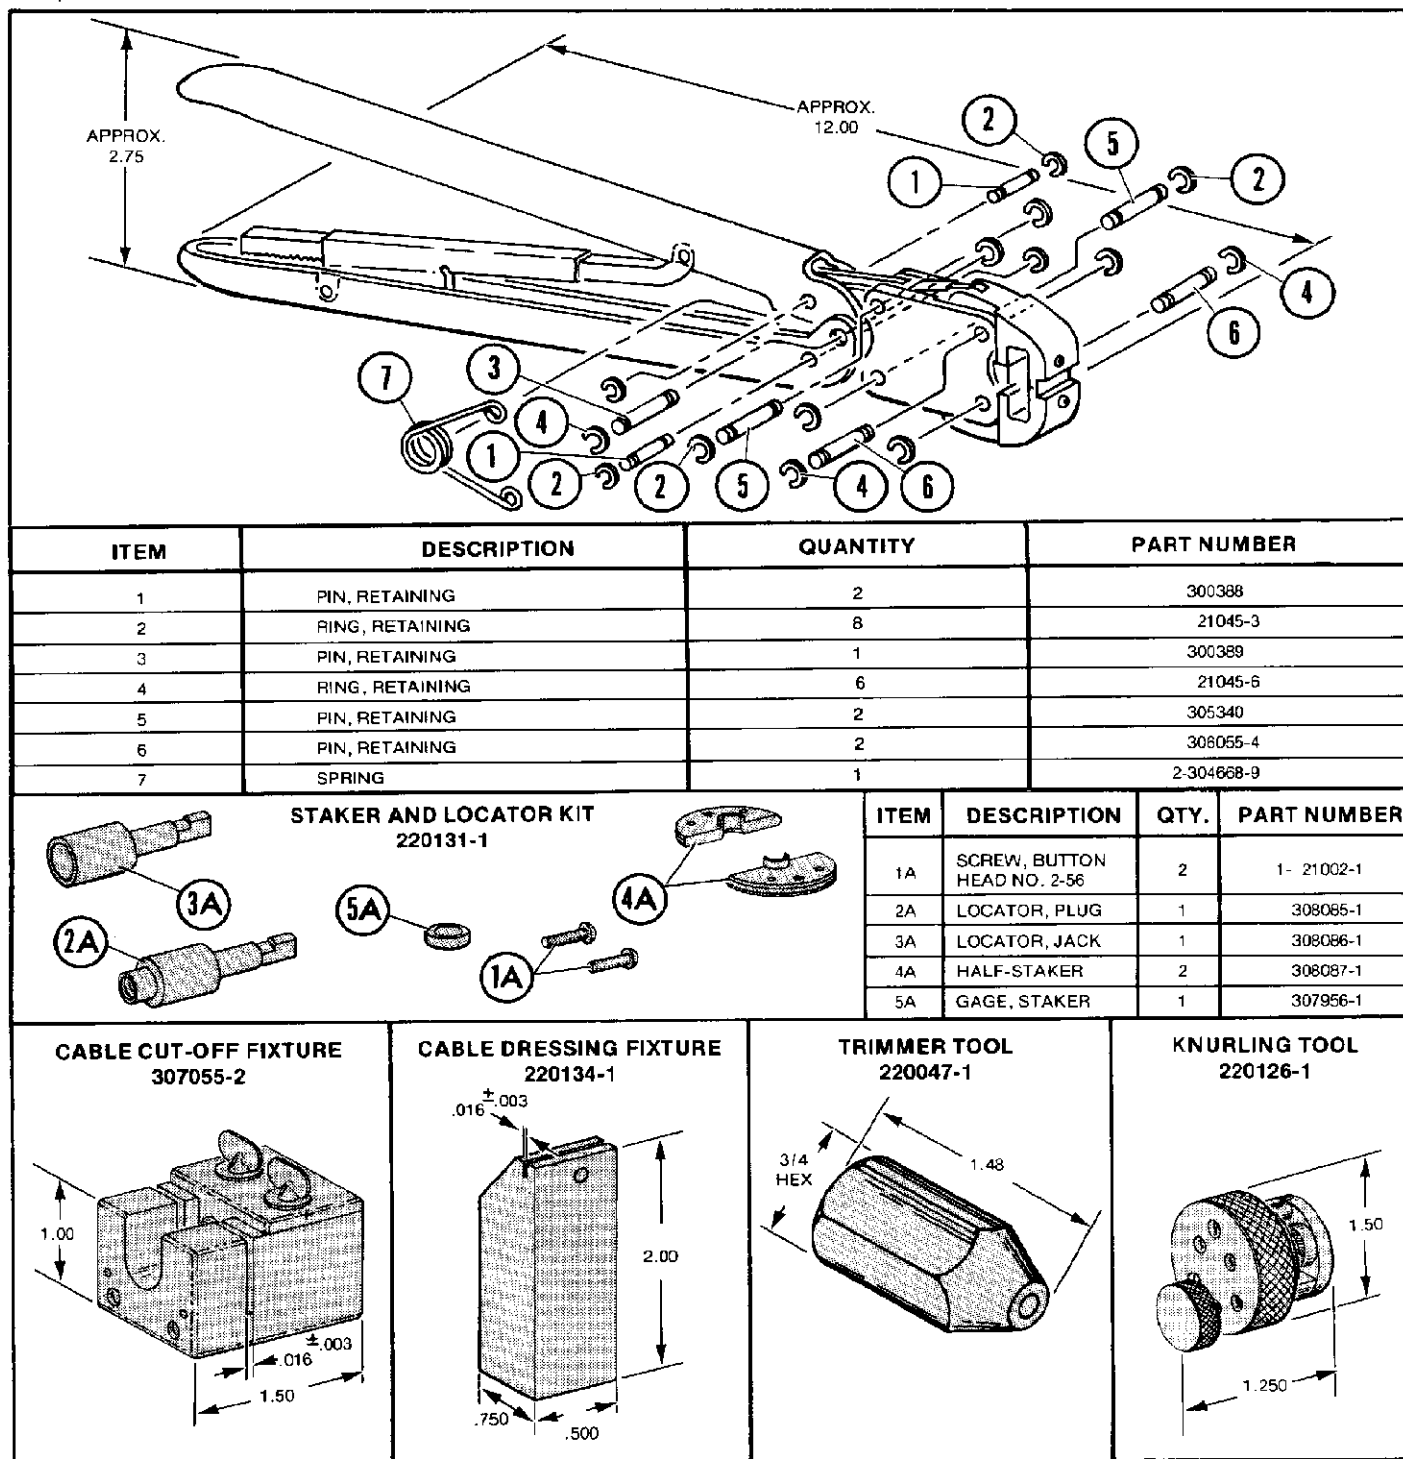

Figure 11
All AMP® tools are inspected and calibrated before being shipped from the factory, however, since there is a possibility of tool damage in shipment, AMP recommends that new tools be inspected in accordance with Section 3 when received in your plant. Due to the precision design, *it is important that no parts of these tools be interchanged except those replacement parts listed in Figure 11.*
- (a) Visually inspect the hand tool for missing pins or retaining rings, then operate the tool and note the return action of the spring loaded handles. If parts are missing or spring in handles is defective, refer to Figure 11 for customer replaceable parts.
It may be advantageous to stock certain replaceable parts to prevent loss of production time. Figure 11 lists the customer replaceable parts that can be purchased from AMP Incorporated, Harrisburg, Pa. 17105, or a wholly owned subsidiary of AMP Incorporated. Parts other than those listed in Figure 11